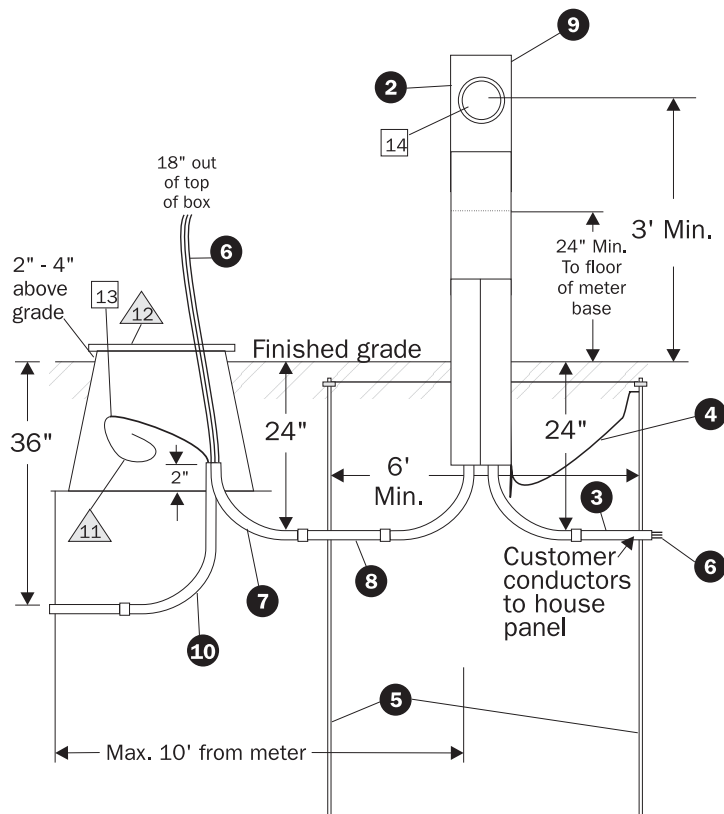

Figure C-7.
2. **Factory built**- a pedestal you buy. See Figure C-7.